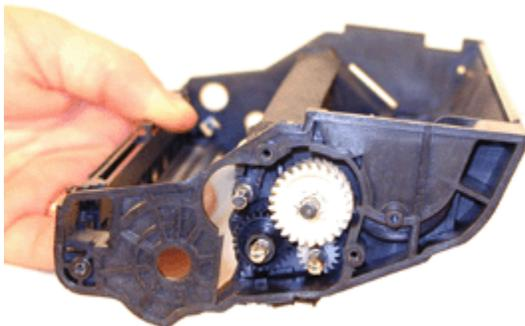

FIGURE 23
19. Install the remaining gears, except for the white mid-sized gear that fits next to the drum. Make sure that the gears are positioned as in the picture. It is very easy to install the double gears backwards! See Figure 23